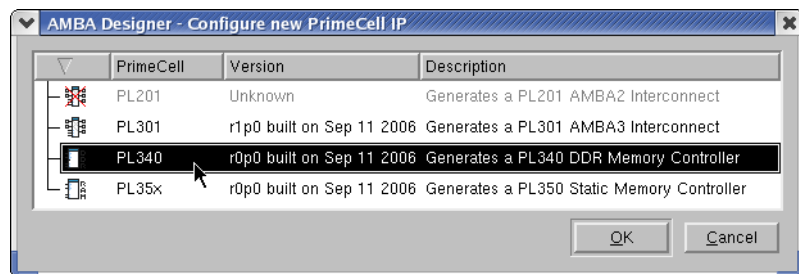

Figure 5-3 Selecting the PL340
- a. Click on the row containing a PrimeCell name of PL340, as Figure 5-3 shows.